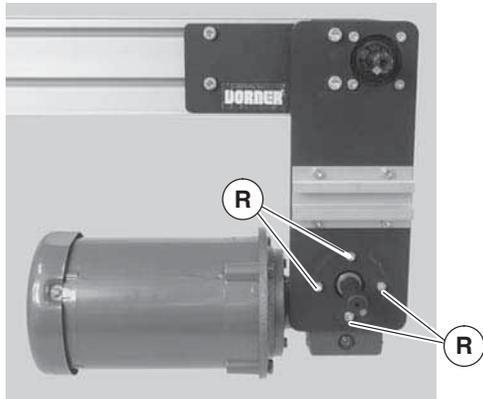

Figure 19
5. Remove four (4) gear reducer mounting screws (Figure 19, item R). Remove gearmotor.
- Install gearmotor to mounting bracket and tighten screws (Figure 19, item R) to 110 in-lb (12 Nm).